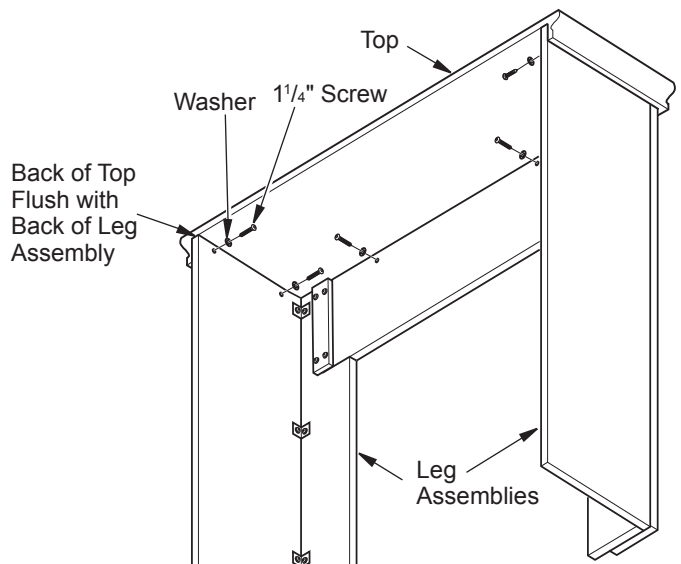

Figure 5 - Attaching Top to Leg and Header Assembly
1. Place mantel top (#7) onto upright leg assembly (see Figure 5). Align back of top with back of sides.
2. Using six 1 1/4" screws with washers, attach top to header/leg assembly (see Figure 5).